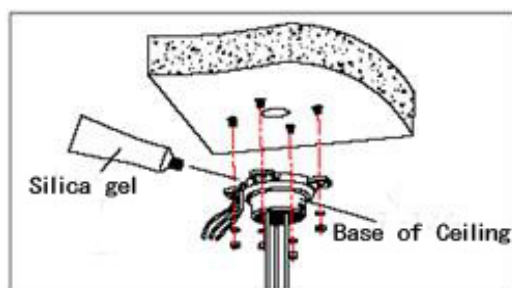

Fig 20
b. As shown in fig 20, at first unscrew the M4 screw at the side of the base of ceiling and split the base of ceiling. Then make the three groups of cables of power, video/control and alarming into the side recessing seal groove of the ceiling connector bottom and through the core hole of the base of ceiling mounted. Fix the base of hang ceiling on the ceiling board.